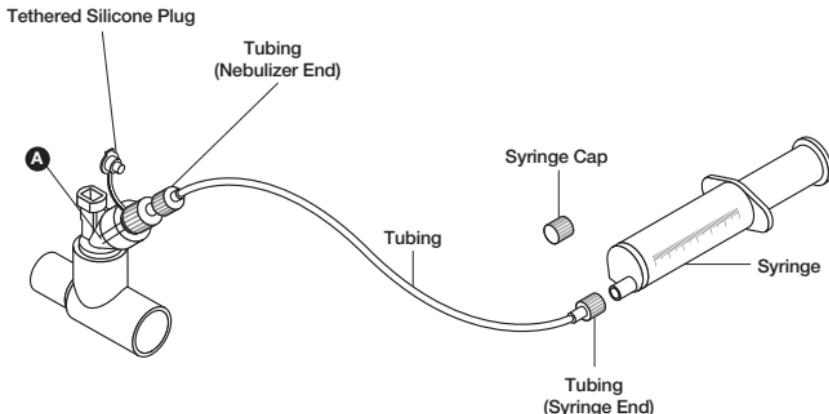

Figure 15. Continuous Nebulization Tube Set
7. Insert the syringe filled with medication into the syringe infusion pump (pump not shown in Figure 15) and set the appropriate flow rate (refer to pump manual or manufacturer for guidance).